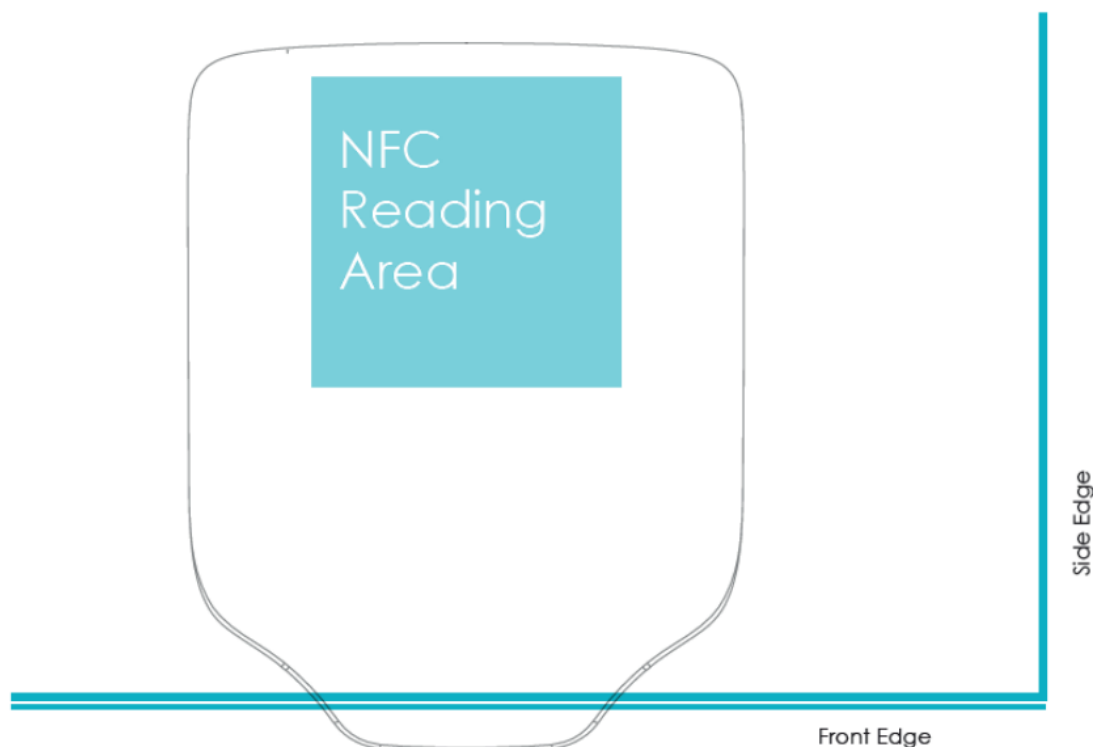

Abb. 7: Marking the NFC Reading Area
1. Locate the NFC Reading Area on the table top. The Reading Area should be a 60 x 60 mm square directly over the LOGIClink, 10 mm from the back edge (Fig. 7).